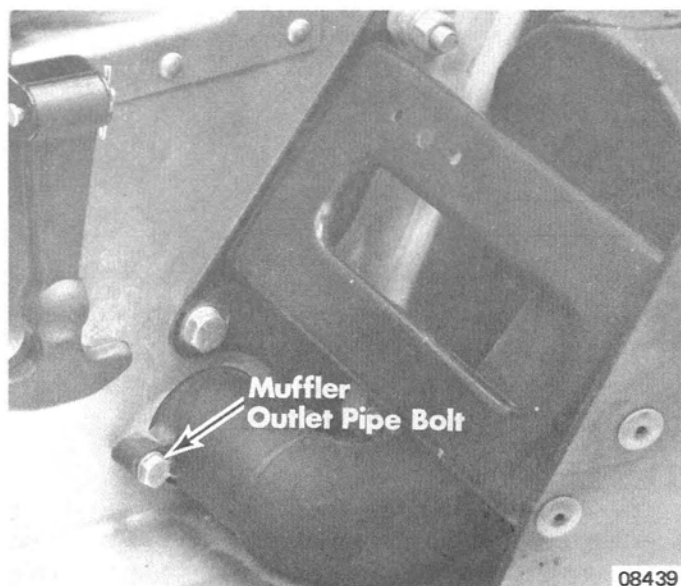

Figure 2. Muffler Removal
4. Remove bolt which secures muffler outlet pipe to chassis. (Figure 2)
2. Secure muffler outlet pipe to chassis with bolt and locknut. (Figure 2)